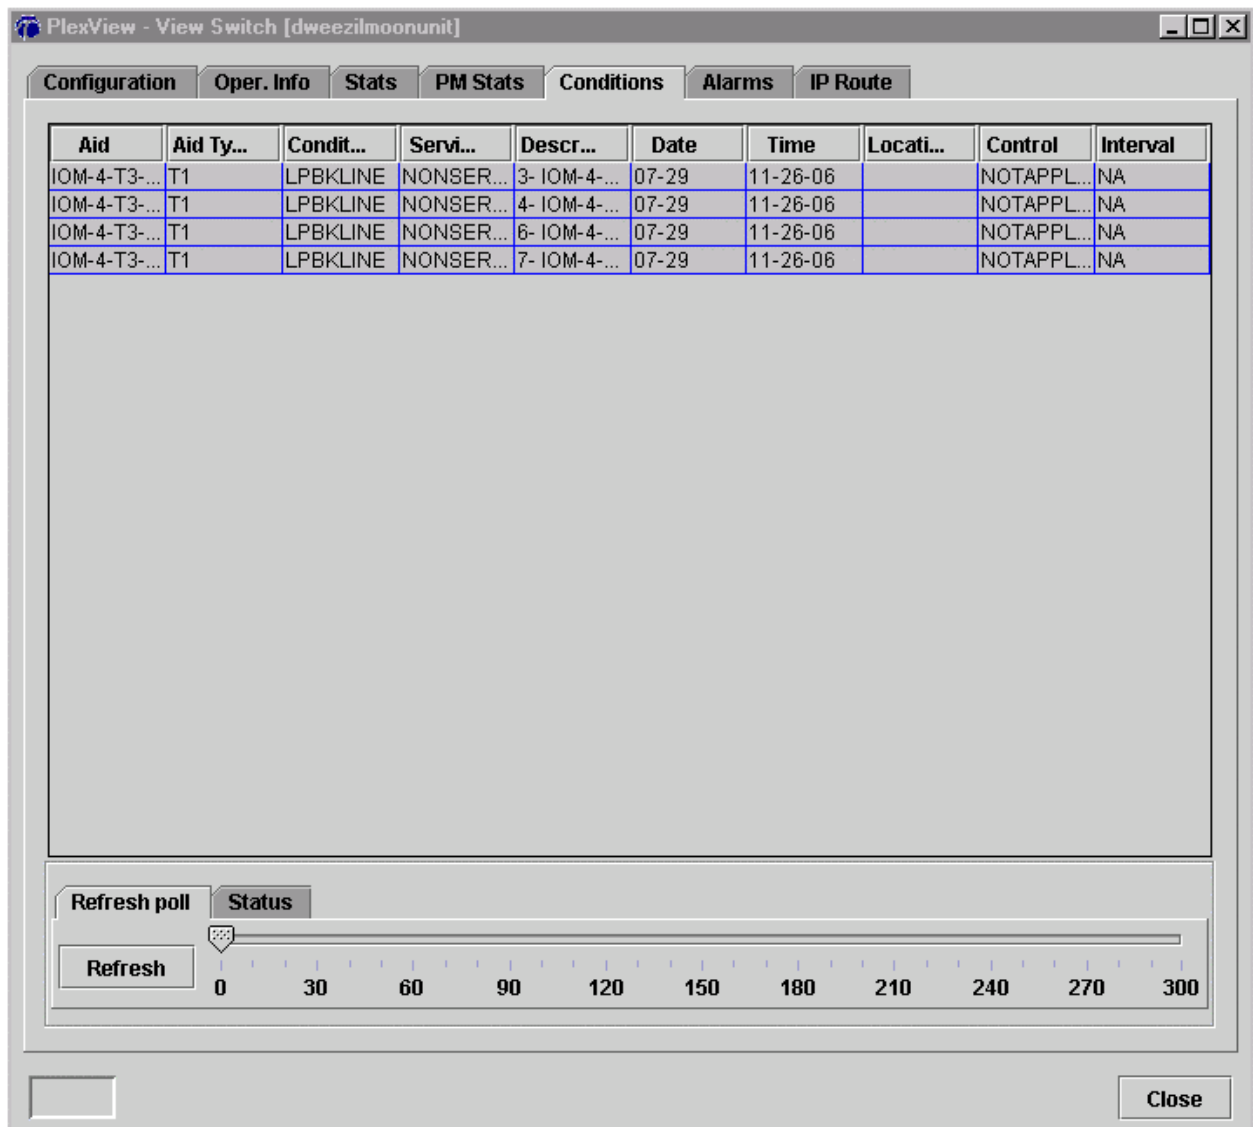

Figure 2. Switch Conditions
9. Retrieve conditions. Double-click Switch, right-click Switch name in the main pane and select View. Select and click the Conditions tab at the top of the pane. See Figure 2.